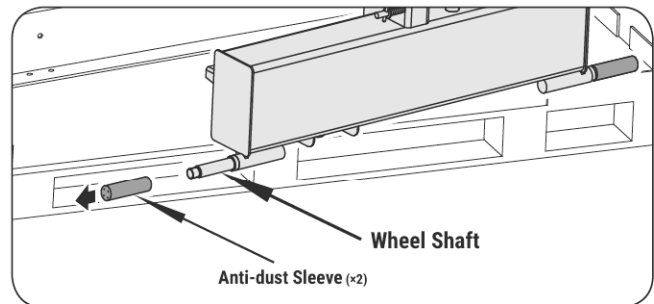

Figure 3c
3. Remove the two anti-dust sleeves from the wheel axle. (See *Figure 3c.*)